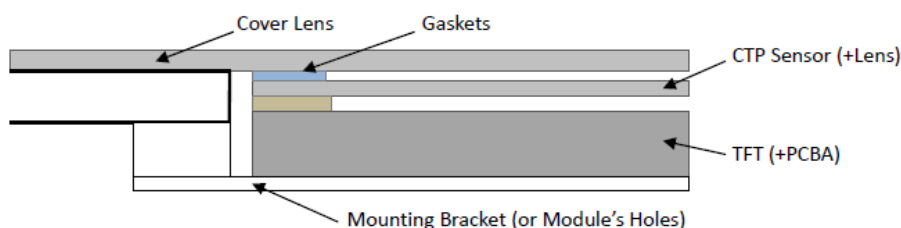

Figure 3
6.3 Additional Cover Lens Mounting (Figure 3)
6.3 覆加盖板 (附图3)